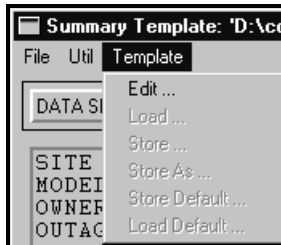

Figure 3-87. Summary Dialog - Template Menu
As shown in Figure 3-87, the **Template** menu on the **Summary** dialog contains only one (1) *active* menu choice named **Edit ...**, which is discussed below. The other choices on the **Template...** menu are grayed-out indicating that they are *inactive*. These items become *active* once the **Template** is opened for editing.
- SUMMARY > Template > Edit ...:** Selecting **Edit ...** from the **Template** menu on the **Summary** dialog shown in Figure 3-87 opens the **Template** dialog shown in Figure 3-88. This dialog is used to edit the design of the **Summary** as desired by the user. **Field Labels** may be edited by simply typing over the existing label. For example, to change the **Field Label** named *REEL* shown in Figure 3-88 to *CAL GROUP*, simply position the cursor at the beginning of the existing label named *REEL* and type over it with the label named *CAL GROUP*. **Field Labels** are plain text and are shown as black text on a gray background in Figure 3-88.